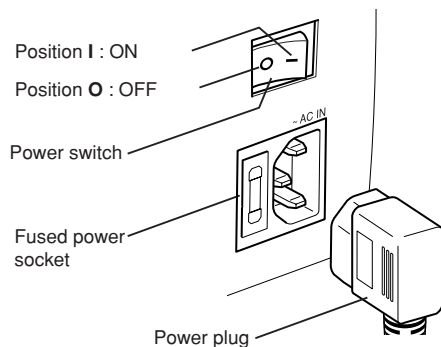

Fig. 12
**CAUTION: Connect the projector to a power supply with a nominal voltage within the following values: 100-240 Vac, 50/60 Hz. It must be earthed (Fig. 12).**